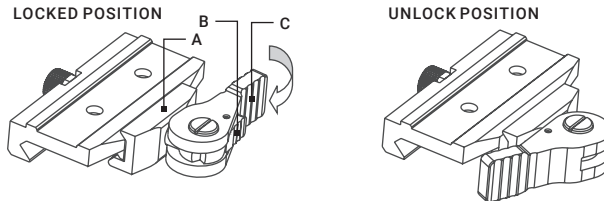

FIGURE 2-4. MOUNT. TOP VIEW
3. Unlock the clamping device (A) of the Victrix mount by pushing down on the lever holder (B, see Figure 2-4) and unlocking the cam lever (C).
5. Affix the Victrix to the rail by locking the cam lever (C, see Figure 2-4).